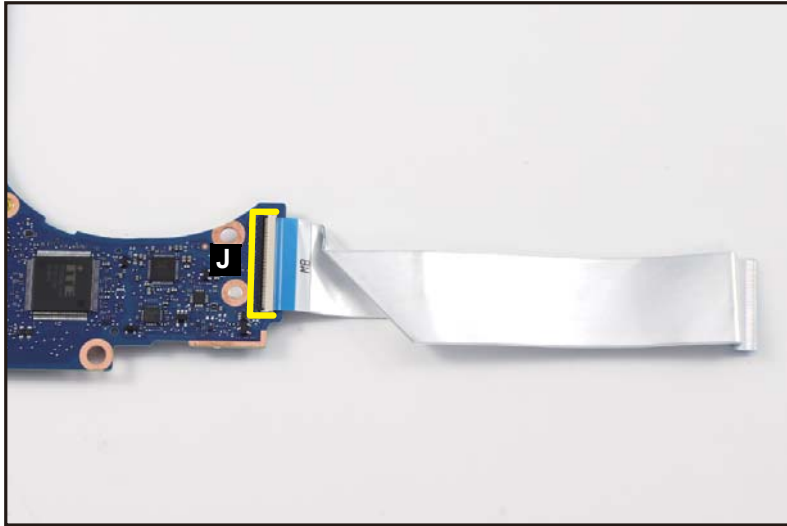

Figure 1-33. Mainboard Removal
10. Flip the mainboard and disconnect the DB FFC from the mainboard connector (J) (Figure 1-33). Then remove the FFC.